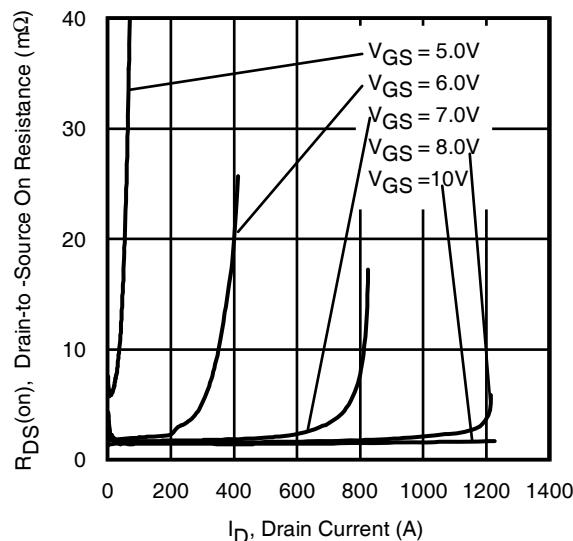

Fig 13. Typical On-Resistance vs. Drain Current
- $Z_{thJC}(D, t_{av})$ = Transient thermal resistance, see Figures 13)